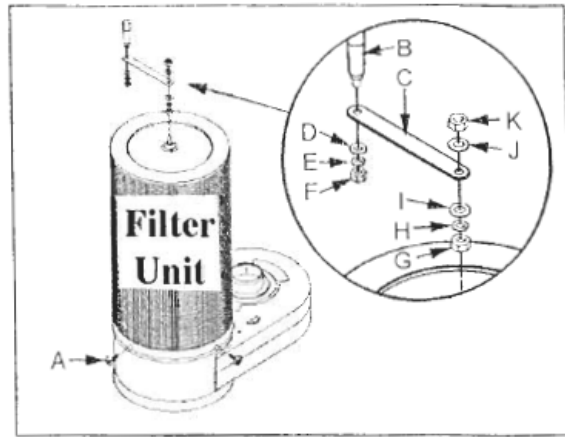

Fig. 5
7. Place the canister filter so that it fits snugly over the housing and tighten the four knobs (A. Fig 5).
8. Mount handle (B, Fig 5) to arm (C. Fig 5 ) with a M8 flat washer (D, Fig. 5). M8 lock washer (E, Fig. 5), and a M8 hex nut (F, Fig 5).
9. Thread a M10 hex nut (G, Fig 5) onto the threaded rod found on top of the canister filter followed by a M10 lock washer (H, Fig. 5), and M10 flat washer (I, Fig 5).
10. Mount the arm (C, Fig. 5 ) to the threaded rod on top of canister with one M10 flat washer (J, Fig. 5) and a M10 hex nut (K, Fig. 5).